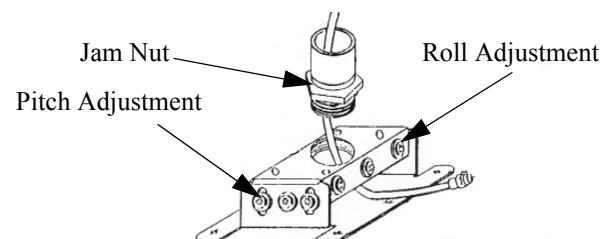

Figure 9. Adjust Yaw, Pitch, and Roll
5. If desired, route cables through RPA as shown in Figure 9.